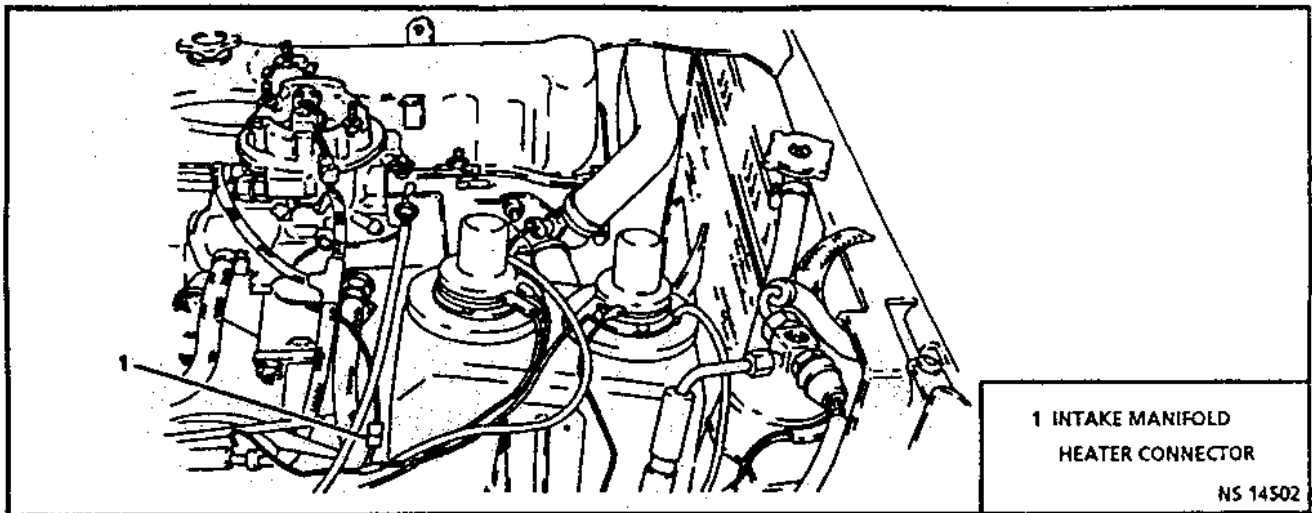
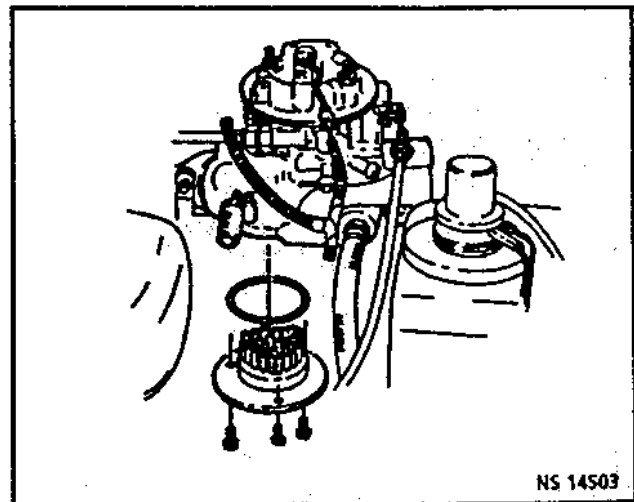

Figure 3.9-1 Intake Manifold Heater Connector
Figure 3.9-2 Intake Manifold Heater Removal
#### INTAKE MANIFOLD HEATER ASSEMBLY *Figures 3.9-1 and 3.9-2*
2. Intake manifold heater connector (Figure 3.9-1).
3. (3) manifold heater to intake manifold connecting bolts.
4. Intake manifold heater and gasket from underside of intake manifold (Figure 3.9-2).